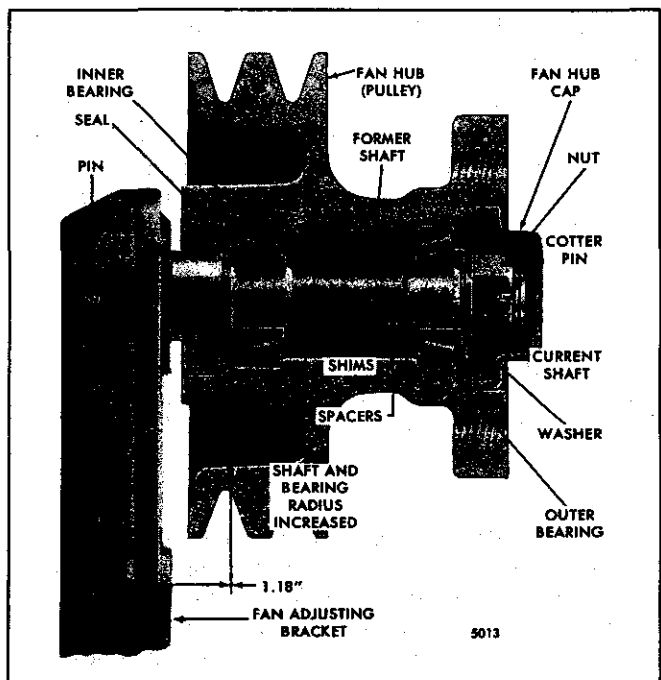

Fig. 6 - Shaft Type Fan Hub Assembly (6V Engines)
2. Remove the hub retaining cotter pin, nut and washer (Fig. 6) or the bolt and special washer (Fig. 7 and 8). Also, remove the shims if the former type fan hub assembly illustrated in Fig. 7 is used.